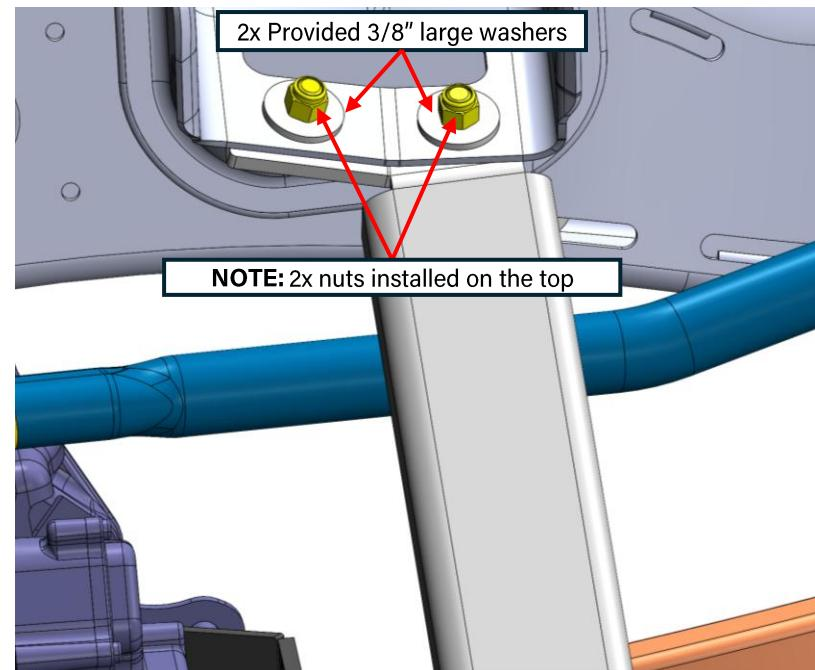

Figure 35: CAD and installation of passenger side motor mount bracket
28. **Loosely** install the provided passenger-side motor mount bracket. See Figure 35 below for clarification. Install below the motor mount **using the shorter, remaining x2 provided 3/8"-16 bolts, large washers, and lock nuts. Do not install the skid plate yet!**